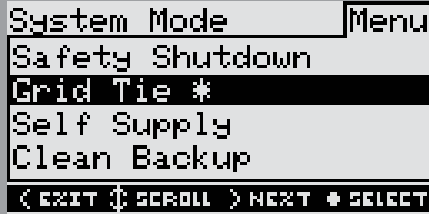

Fig 40. The active operational mode will be highlighted with an asterisk
2. A list of operational modes will be displayed [Fig. 40]. The current operational mode will have an asterisk (\*) next to it. (It is possible that the list of modes will not include all those shown here. Not all modes are available for all situations.)